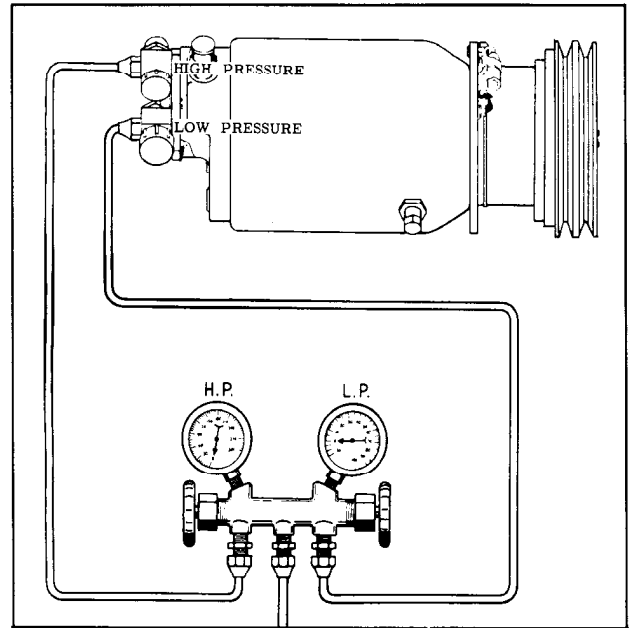

Fig. 14-39 Gauge Connections for Pressure Test
- c. Remove the compressor low pressure gauge outlet cap and install the low pressure gauge hose. (Fig. 14-39)